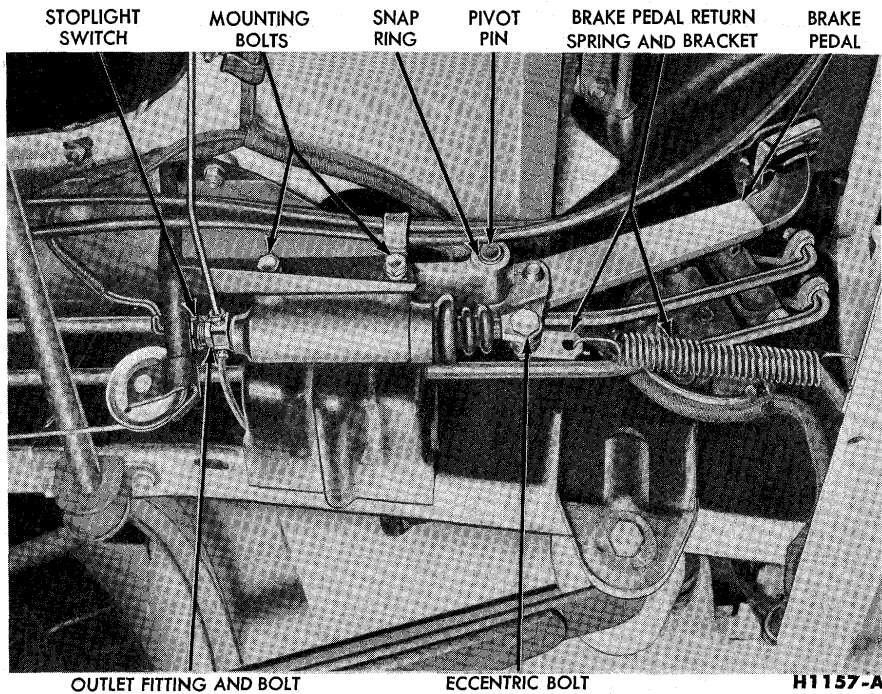

FIG. 11—Brake Master Cylinder—Installed
3. Disconnect the brake pedal return spring (Fig. 11).
2. Swing the cylinder up and into position between the mounting brackets (Fig. 12). Install the mounting bolts and the pivot-pin snap ring (Fig. 11). Torque the mounting bolts to 23-29 ft-lbs.
5. Connect the return spring to the bracket (Fig. 11).
4. Disconnect the brake pedal return spring, and remove the brake pedal eccentric bolt, return spring bracket, and nut (Fig. 11).